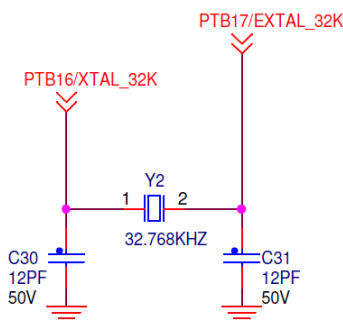

Figure 6. KW40-HRM-RD 32.768 kHz optional oscillator circuit
- Optional 32.768 kHz Crystal Oscillator - Provision is also made for a secondary 32.768 kHz crystal Y2 (see Figure 6). This oscillator can be used for a low power accurate time base.